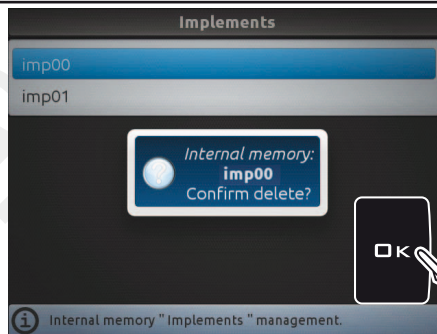

Fig. 275
- The message in Fig. 275 is displayed: confirm deletion by pressing **OK** again.